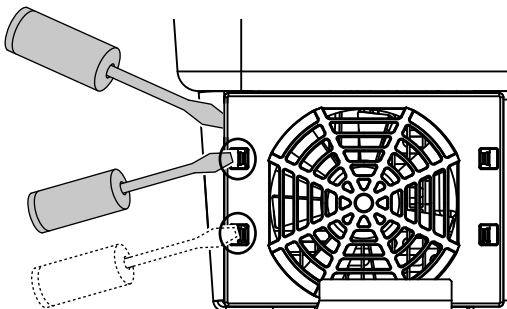

Fig. 70: Loosen fastening straps
3. Press the fastening straps toward the centre of the fan with a second screwdriver. Pull the fan unit slightly forward.  **Fig. 70**